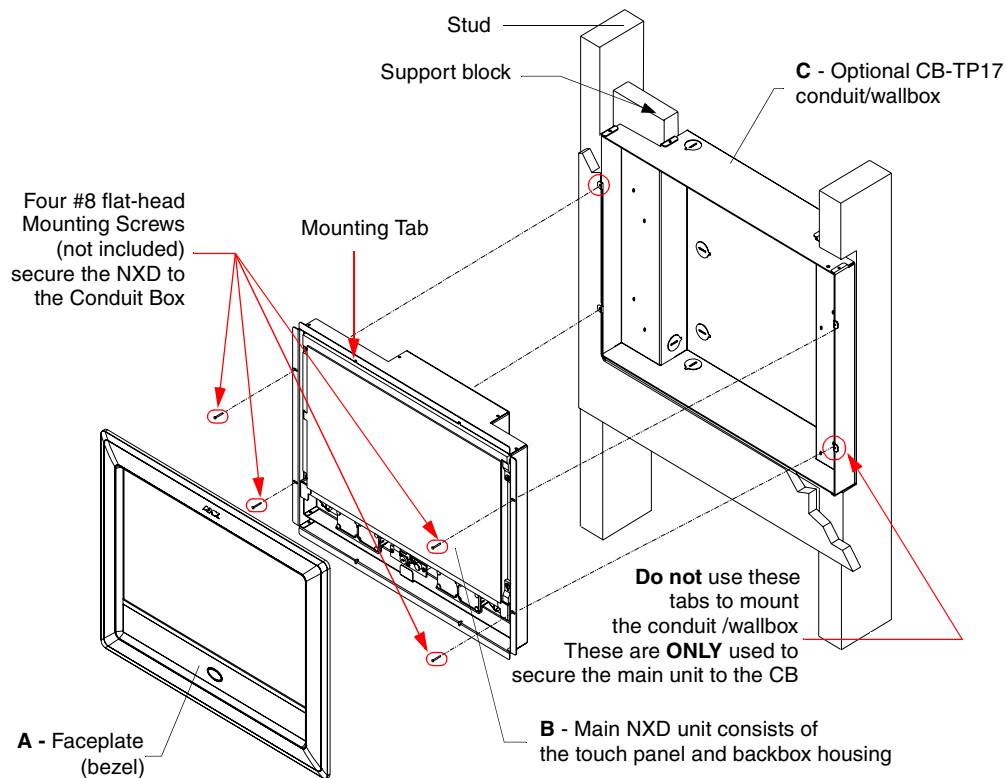

FIG. 57 Wall Mount panel installation configuration of a CB-TP17 in a pre-wall construction
1. Remove the magnetic faceplate/bezel (**A** in FIG. 57) from the main NXD unit (**B** in FIG. 57) by gripping the faceplate and pulling with gentle outward force.
6. Carefully slide the main NXD unit (**B** in FIG. 57) into the conduit box, so the Mounting Tab lies flush against the conduit box (**C** in FIG. 57).
7. Insert and secure four securing #8 flat-head Mounting Screws into their corresponding holes located along the sides of the NXD (FIG. 57). *These #8 screws are not included within the CB Installation Kit and must be provided by the installer.*
8. Place the magnetic faceplate (**A** in FIG. 57) back onto the main NXD unit (**B** in FIG. 57). Make sure to align the Microphone, Light, and PIR Motion sensor locations to their respective openings on the front bezel/faceplate.